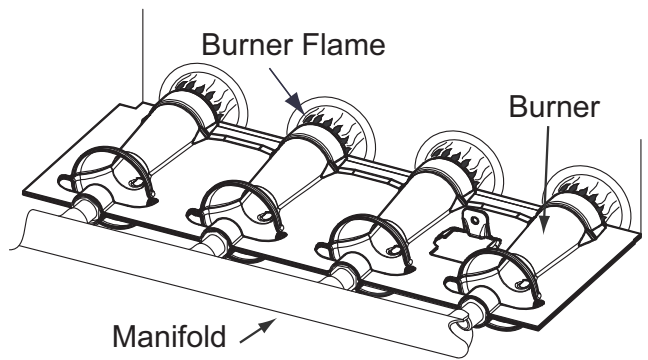

Fig. 68 - Burner Flame
8. Reverse items 6 through 1 for reassembly.
11. Check furnace operation through 2 complete heat operating cycles. Look at burners. Burner flames should be clear blue, almost transparent. See Fig. 68.